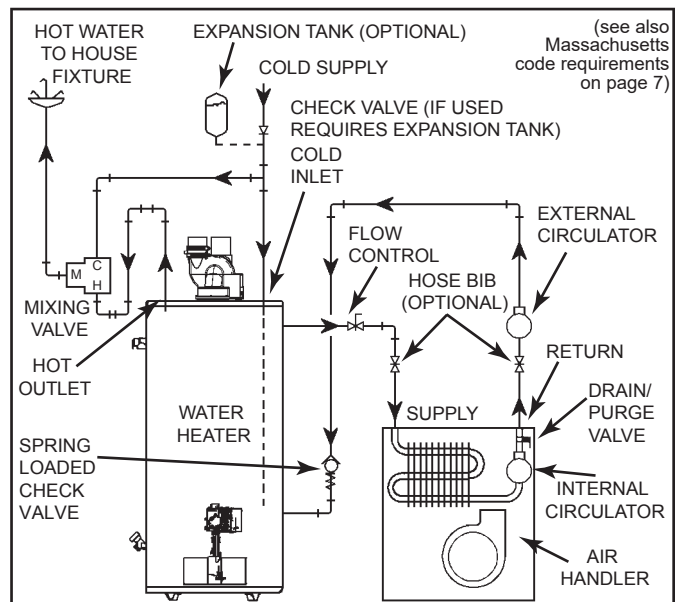
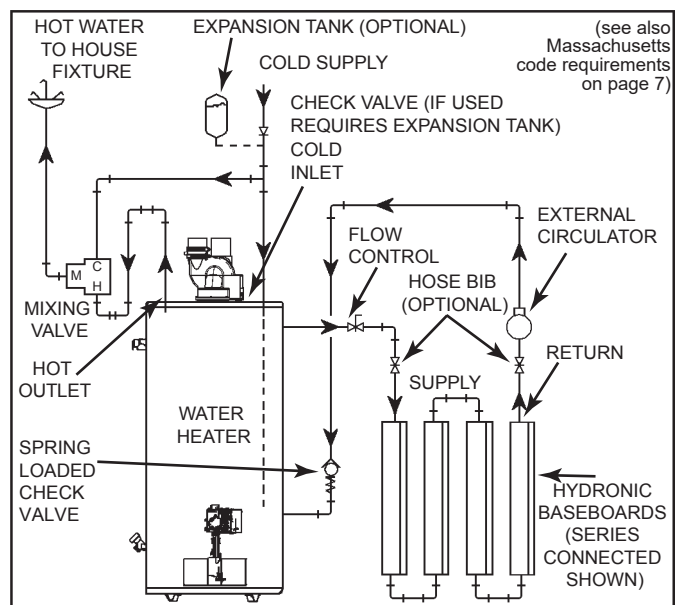

Figure 11.
Figure 12.
8. “Combo” Heating Systems require higher water temperatures than other applications. When the system is used to supply water for Combo Heating applications, a means, such as Thermostatic Mixing Valves (see Figure 6) at each point-of-use, must be installed to temper the water in order to reduce scald hazard potential (see Figure 11 and Figure 12).
- A. A fan coil/air handler (Figure 11).
- B. A hydronic baseboard (finned tube) loop/In floor heating (Figure 12).